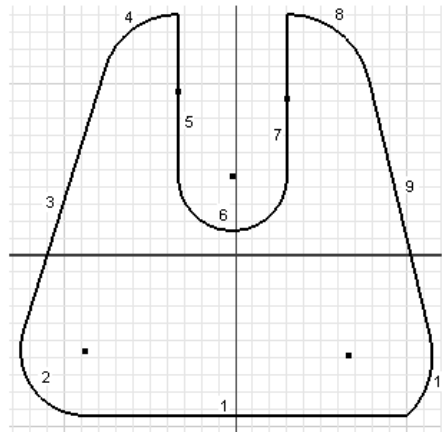

Figure 3-59 Profile with geometries numbered
- Start a new metric template and draw the outer loop of the sketch, refer to Figure 3-59.
- Invoke the **Line** tool from the **Create** panel in the **Sketch** tab, refer to Figure 3-59.
The outer loop that you created in the previous step might be different from the one shown in Figure 3-59. You can find the missing constraints by following the next step and applying constraints accordingly.
As evident from Figure 3-59, some of the constraints such as tangent and equal are missing in the sketch. The sketch shown in Figure 3-59 may not be symmetrical and all the lines in the sketch may not be tangent to the arcs. Therefore, you need to add these missing constraints manually to the sketch to complete it. You can choose the **Show Constraint** option from the Marking menu that is displayed when you right-click on an entity.
1. In Figure 3-59, the **Tangent** constraint is missing between line 1 and arc 10. To add this constraint between the line and the arc, choose the **Tangent** tool from the **Constrain** panel of the **Sketch** tab; you are prompted to select the first curve. Select arc 10 as the first curve; you are prompted to select the second curve. Select line 1 as the second curve. Similarly, add this constraint to all the places in the sketch wherever it is missing.